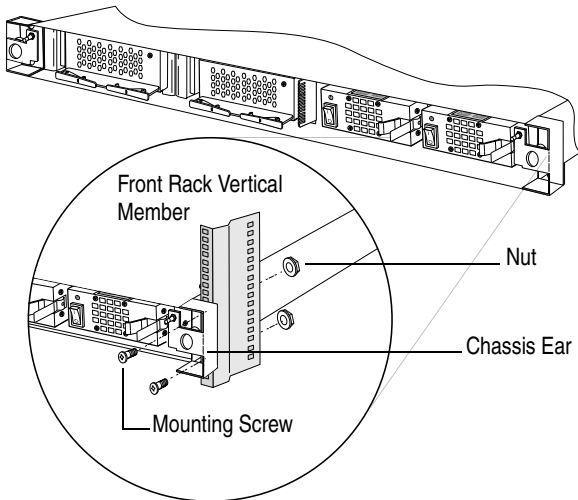

Figure 3-3 Attaching the Chassis Ears
- 3 Secure the left and right front chassis ears to the rack's front vertical members using the supplied screws and nuts. See Figure 3-3.